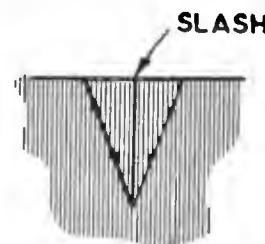

Fig. 244A. Slash the darts in the center.
- A. Slash the darts in the center. Lap the raw edges. Machine-stitch or catch-stitch the edges together. Trim to remove bulk (Figs. 244A and B).